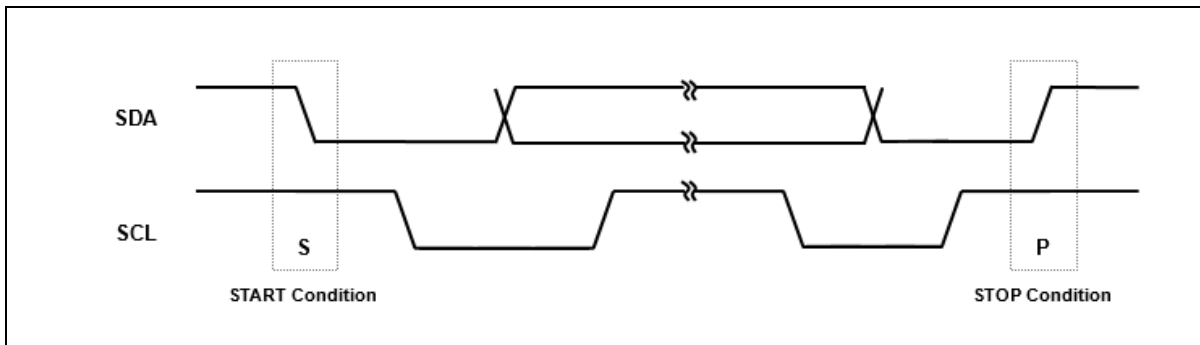

Figure 65. START and STOP Conditions
Within the procedure of the I2C-bus, unique situations arise which are defined as START(S) and STOP(P) conditions (see Figure 65).